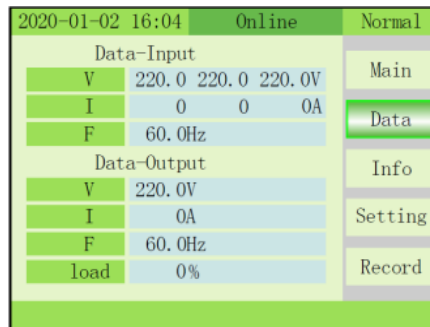

Fig. 3-9 Data menu
2) DATA: This menu shows input and output detailed information (Fig. 3-9).